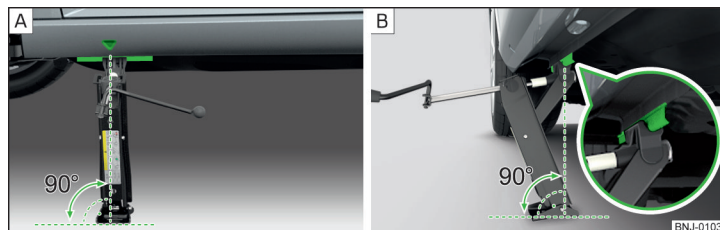

Fig. 265 **Attach lifting jack**
- Position the base plate of the jack with its full area resting on level ground and ensure that the jack will fit in the jacking point when raised » Fig. 265 - **A**.
- Use the crank to raise the jack until its pawl covers the jacking point » Fig. 265- **B**.